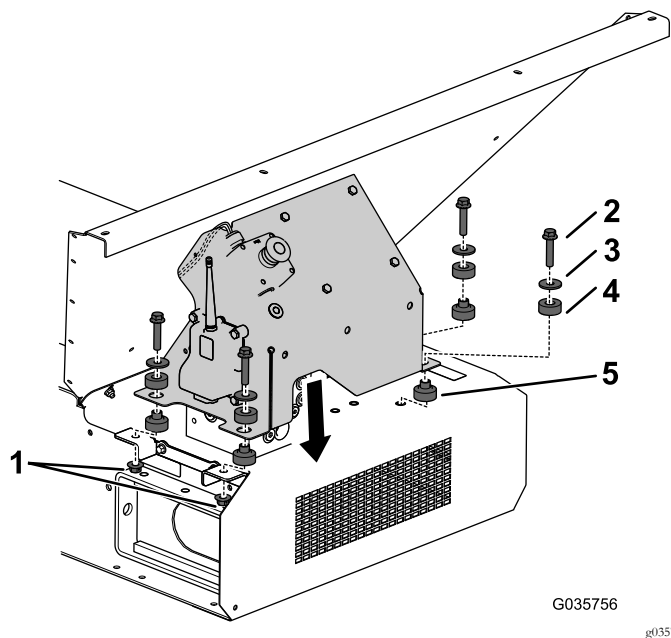

Figure 16
Note: Make sure that the E-Stop connection wire is placed through the slit on the top of the cover assembly as shown in Figure 16.
18. Secure the cover to the mount bracket and rinse guard with the 4 bolts (3/8 x 3/4 inch), 4 hardened washers, 4 two-piece mounts, and 2 nuts (3/8 inch); refer to Figure 16.